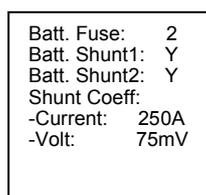

Fig. 2-19 Basic settings screen
1. Press the UP or DN button to select “Basic Settings” in the battery parameter setting screen; after the ENT button is pressed, the basic battery parameter setting screen appears, as shown in Fig. 2-19.